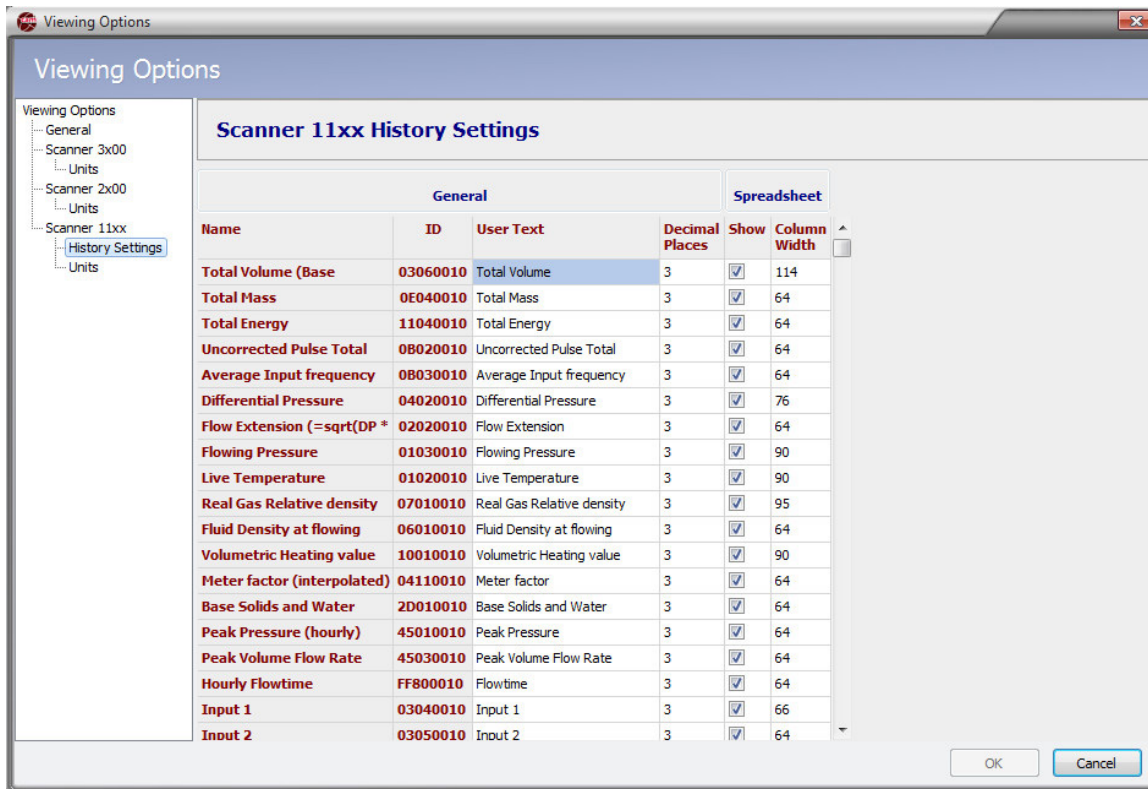

Figure A.4—Scanner 11xx history settings
1. Select **Scanner 11xx>History Settings** (Figure A.4, page A-4).